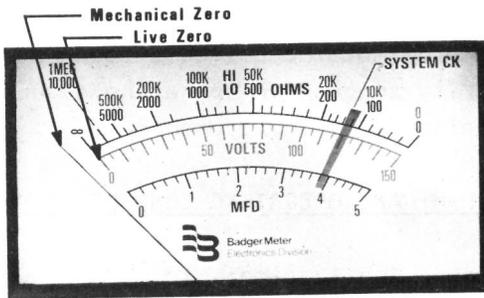

Figure 4 - Console Test Meter with Mechanical- and Live-Zero Marks Identified
3.02 Live-Zero Potential: Before performing any accessing or operating procedures, observe that the test meter's pointer lies off-scale to the left. (Figure 4). This is the normal position of the pointer and is called "mechanical zero". Most of the pushbuttons, when operated after the remote station has been accessed, cause the pointer